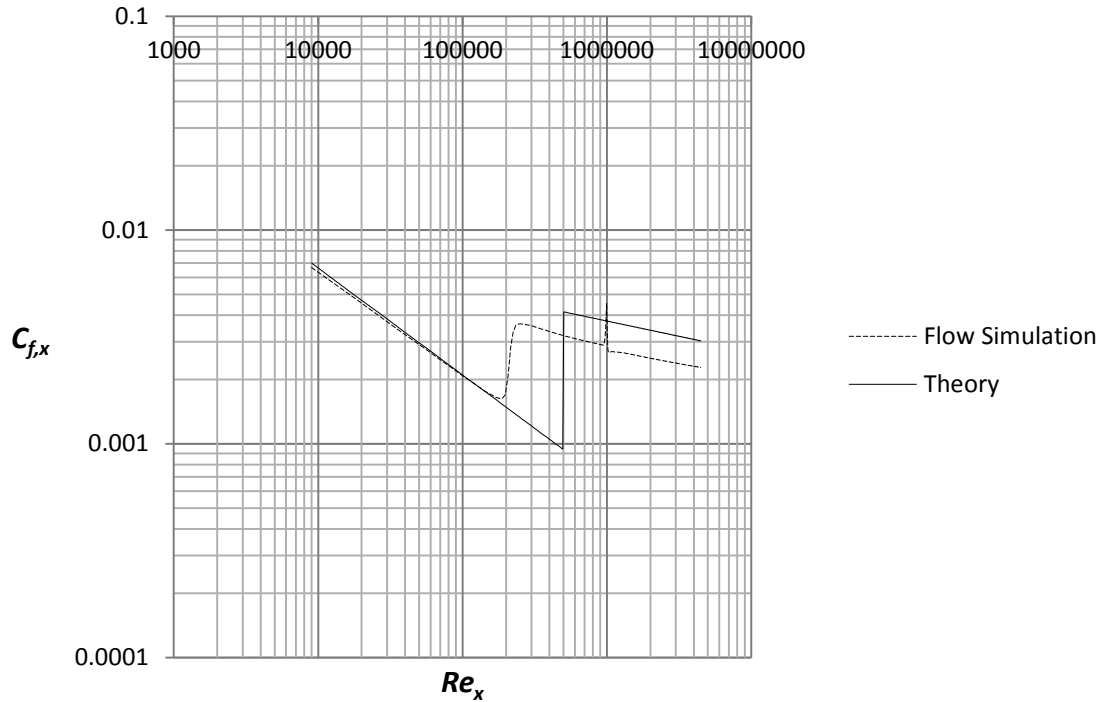

Figure 2.32 A comparison between Flow Simulation (dashed line) and theoretical laminar and empirical turbulent friction coefficients
34. Place the file “**graph 2.32**” on the desktop. Repeat step 24 and choose the sketch $x = 0 - 0.9$ m, uncheck the box for **Velocity (X)** and check the box for **Shear Stress**. Rename the xy-plot to **Local Friction Coefficient for Laminar and Turbulent Boundary Layer**. An Excel file will open with figure 2.32. Figure 2.32 is showing the Flow Simulation is able to capture the local friction coefficient in the laminar region in the Reynolds number range 10,000 – 200,000. At $Re = 200,000$ there is an abrupt increase in the friction coefficient caused by laminar to turbulent transition. In the turbulent region the friction coefficient is decreasing again, but the local friction coefficient from Flow Simulation is significantly lower than empirical data.